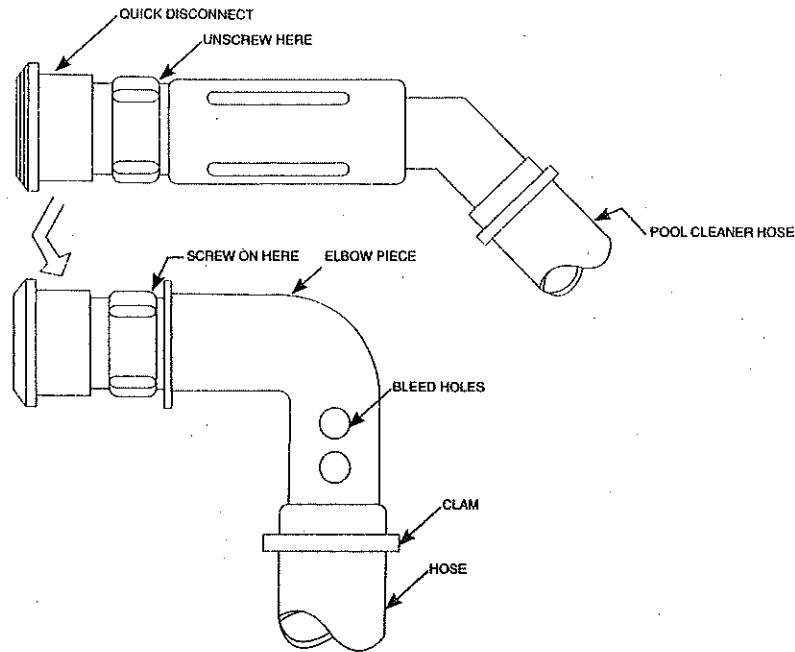

FIGURE 7
2. Unscrew the end of your pool cleaner hose fitting as indicated in Figure 7.Screw the quick disconnect fitting on to the threaded end of the Elbow Piece(6).Tis is your inlet adapter.
3. Refer to Figure 1.Uncoil the hose (3) and remove all twist.Using clamps(15),clamp one end of the hose to the back side of the fountainhead (1) and the other end to the inlet adapter from step 2.Cover one set of bleed holes with the hose (Fig.7). To tighten clamp,grasp "tabs" between thumb and forefinger and squeeze.Tighten securely with a pair of pliers.To open the clamp,grip one "tab" of the clamp with pliers and twist loose.
4. Using the tie wrap(14),LOOSELY attach the anchor(4) to the hose (3).the anchor(4) should be attached to the hose(3) at a point as deep as the water plus approximately two feet.You will have to estimate what the water depth is where you want the fountain and add two feet **CAUTION:DO NOT CONSTRICT THE HOSE BY TIGHTENING THE TIE WRAP (14) TOO TIGHT.**
6. Place the fountain assembly into the pool.Position the fountain in the desired location being careful not to crimp the hose (3).
Height adjustment is achieved by covering more or less of the bleed holes(Fig.7) on your elbow piece(6) with the hose(3). The more holes covered,the higher the fountain and vice versa.
- Pool cleaner quick disconnect fittings. Refer to Figure 7. Use installation **instruction 4, page 6** for this type inlet.